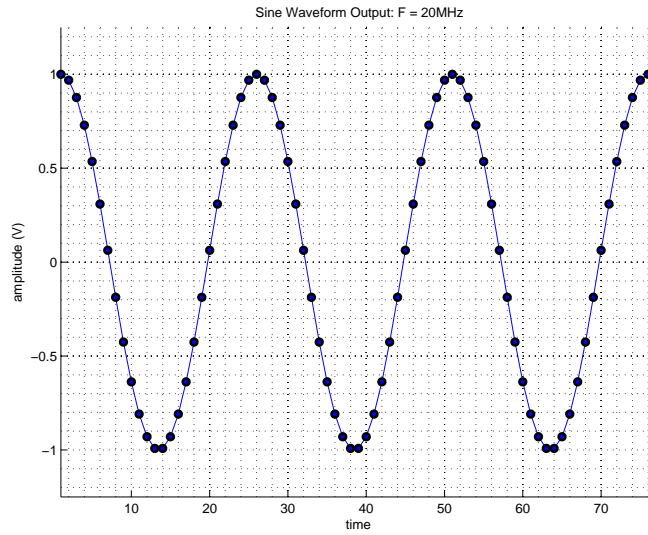
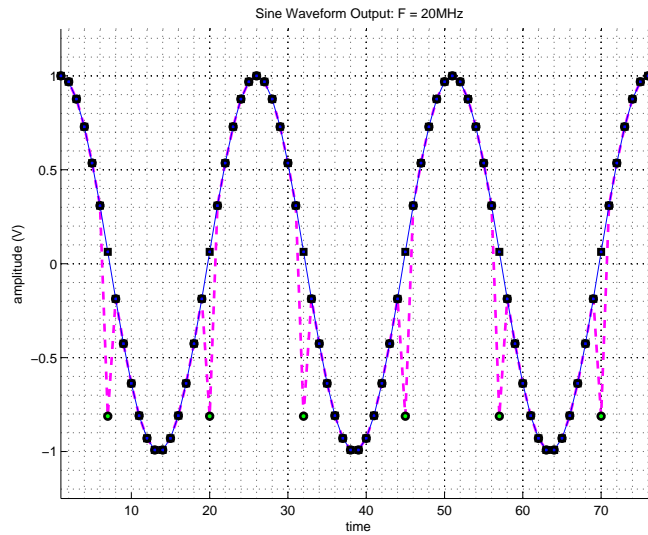

Figure 4.6: Matlab Simulation: 20MHz Sine Wave
Figure 4.7: Matlab Simulation: 20MHz Sine Wave
- xiv. Upon fixing the waveform generation Perl script I was able to get proper waveforms out of the DAC5682Z. Figure 4.6 shows the correct waveform. Figure 4.7 shows the incorrect and correct waveforms plotted on the same axes.